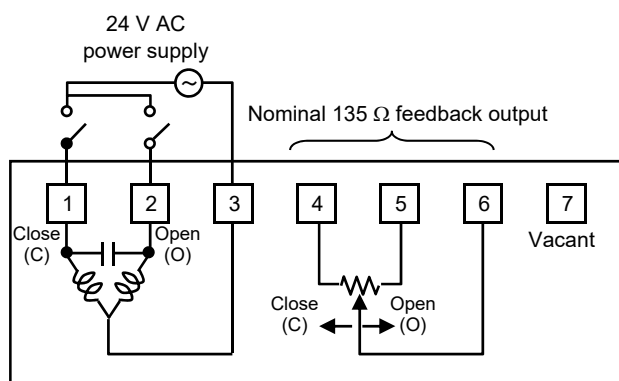

Figure 10. Terminals connection of Model VY5119J
- For 2-10 V DC input type, 0-10 V DC input type and 4-20 mA input type, make sure the polarity of the power supply and 2-10 V DC feedback output referring to Figs 10 to 14. Incorrect wiring may result in PCB (print circuit board) burnout.
- 3) Correctly connect the wires to the terminals with M3.5 screw terminal lugs, referring to Figs 10 to 27.